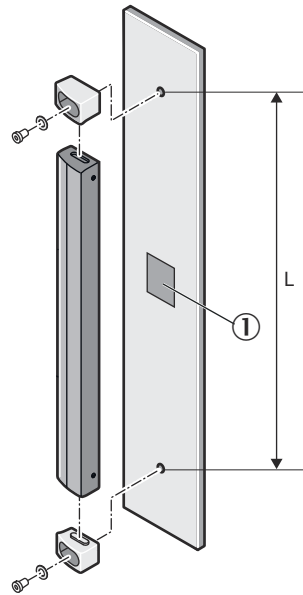

Figure 36: Mounting the miniTwin4 with O-Fix bracket
2. Insert the twin stick between the two O-Fix brackets. For applications in which strong vibrations could occur, from a device length of 600 mm, stick the twin stick to the mounting surface with two-sided adhesive tape (see ① in figure 36).